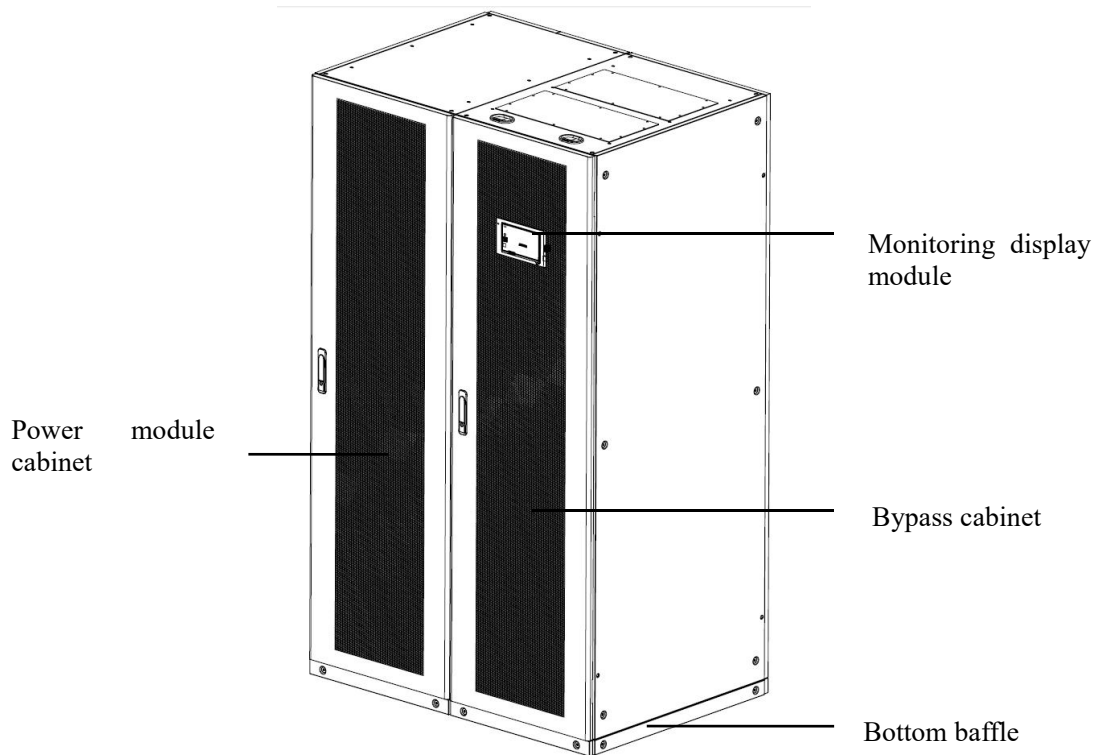

Fig. 1-3 Appearance of 600kVA UPS
3) 600kVAUPS has the appearance as shown in Fig. 1-3: